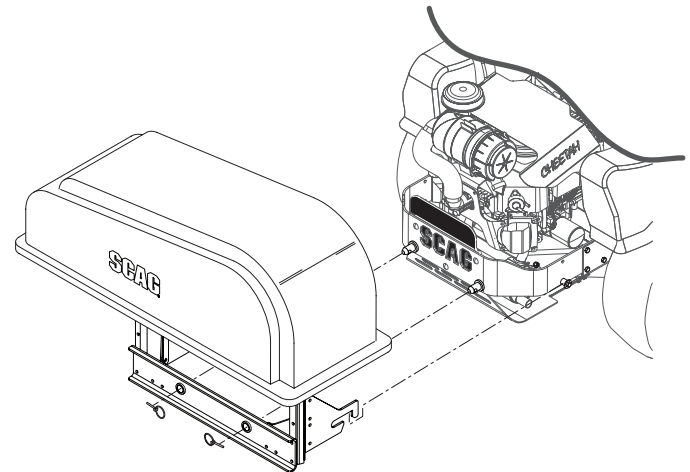

Figure 2-14. Hopper Installation
11. With help from an assistant, install the hopper assembly to the machine and secure with the ring pins. See Figure 2-14.
The model shown in Figure 2-14 is for reference only. The grass catcher installs to all models in a similar fashion.